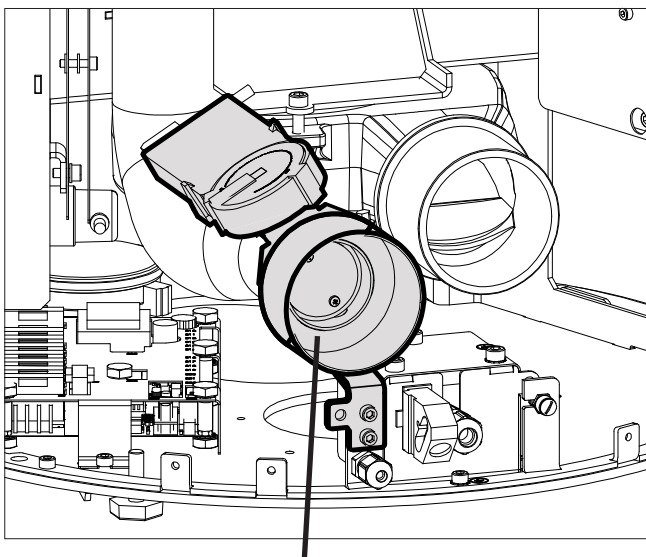

Fig.4 Combustion air damper screwed on at the rear
- Screw the combustion air damper on at the rear (Fig.4) or at the bottom (Fig.5) of the appliance.